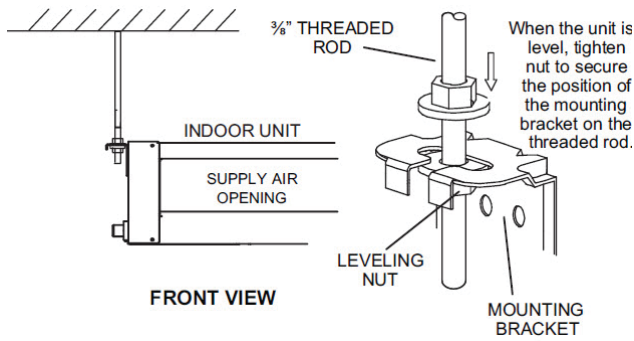

Fig. 11 —Threaded Rod
3. Secure the unit in position with locknuts and washers on both sides of the mounting bracket. Ensure that the threaded rod does not protrude more than two inches below the mounting brackets as shown in Fig. 11.